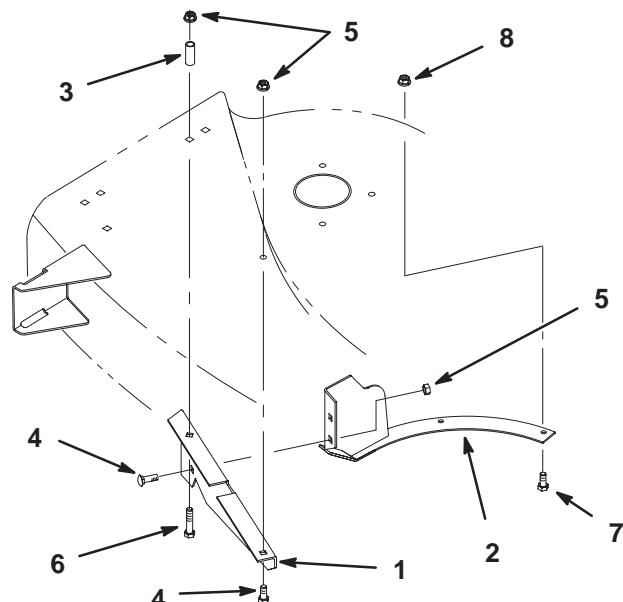

Figure 5
5. Attach the rear grass baffle to the grass ring with 2 carriage bolts (5/16 x 7/8 in.) and 2 locknuts (5/16 in.) (Fig. 5).
6. Install the rear grass baffle and grass ring inside the discharge chute area. Secure the rear grass baffle to the mower with a short carriage bolt (5/16 x 7/8 in.) and a long carriage bolt (5/16 x 2-1/2 in.). Add the latch tube above the deck and secure it with 2 locknuts (5/16 in.). Secure the grass ring to the mower with 2 bolts (1/4 x 3/4 in.) and 2 locknuts (1/4 in.) (Fig. 5).